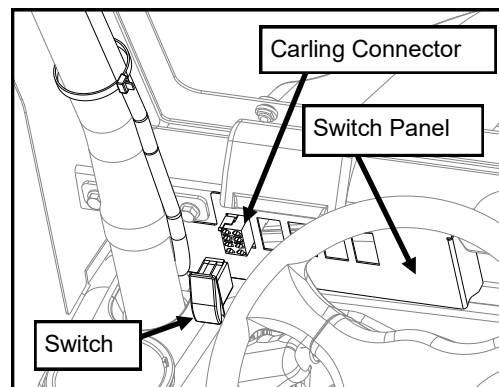

Fig. 2.3B
2.3 Route the Carling 8-pin connector (on provided wiring harness) through one of the rectangular cut-outs in the switch panel. Plug the Carling connector into the back of the switch. Snap the switch into the switch panel. (See Figure 2.3B). Install any additional accessories and then fasten the switch panel to the windshield.